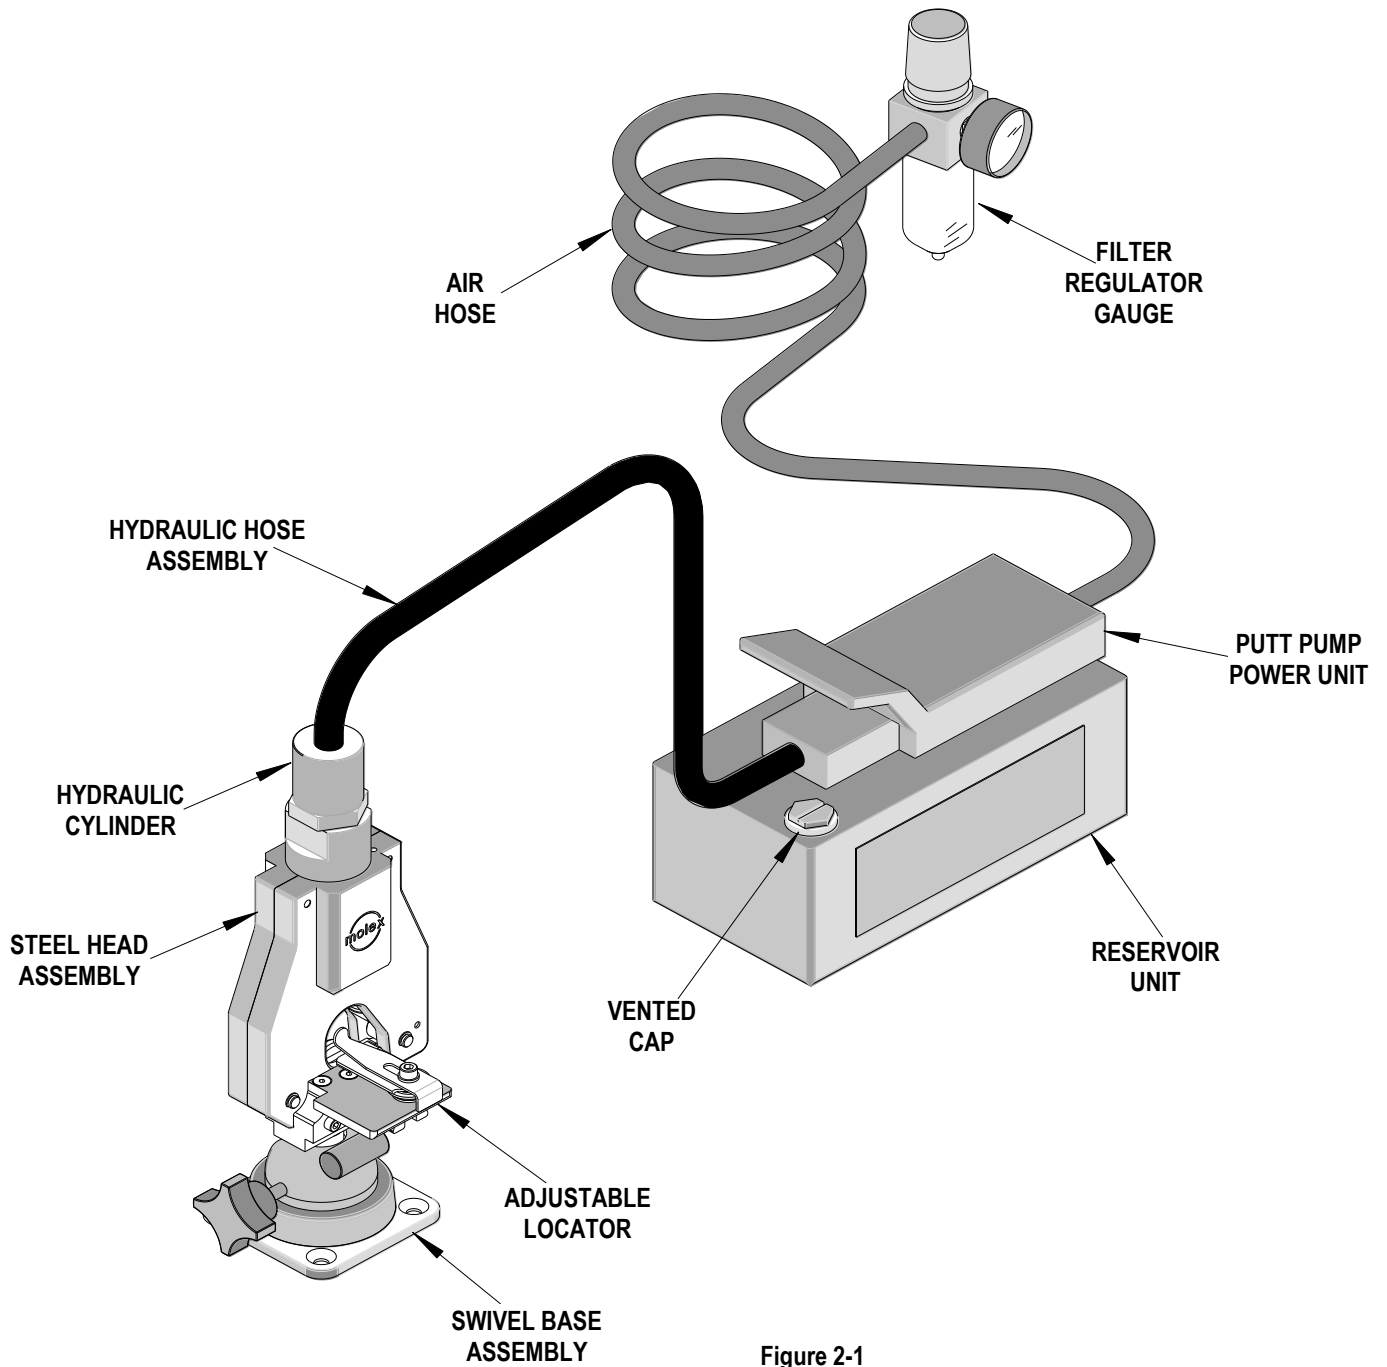

Figure 2-1
1.1 Description (See Figure 2-1)